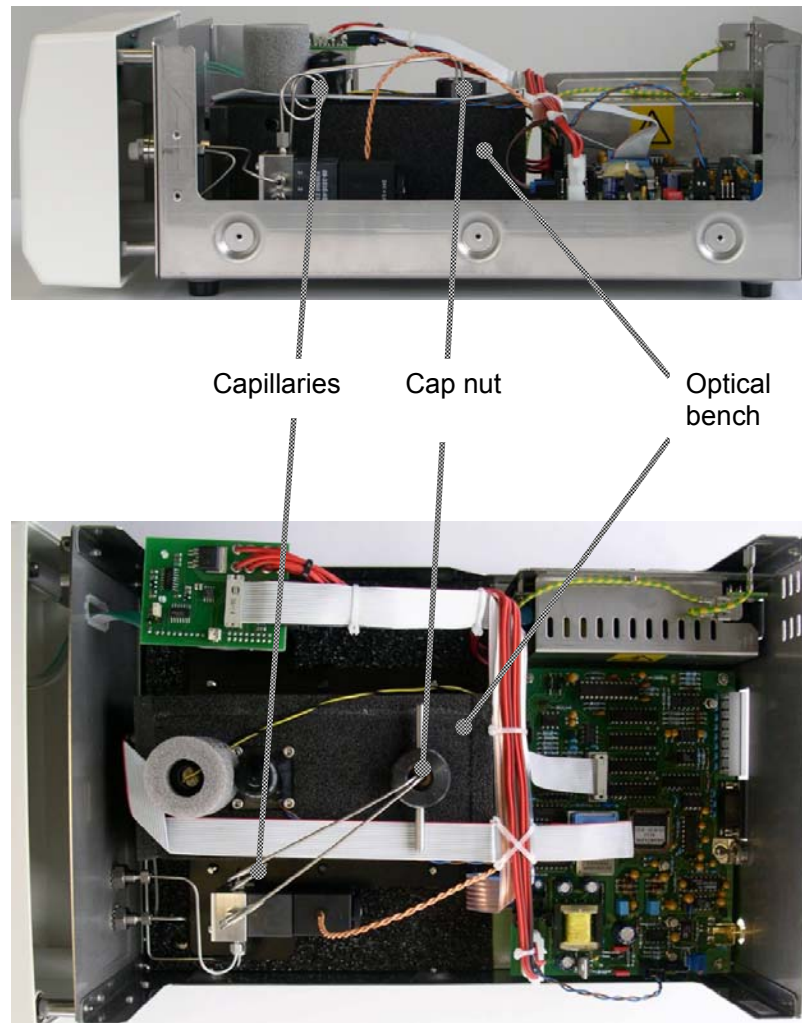
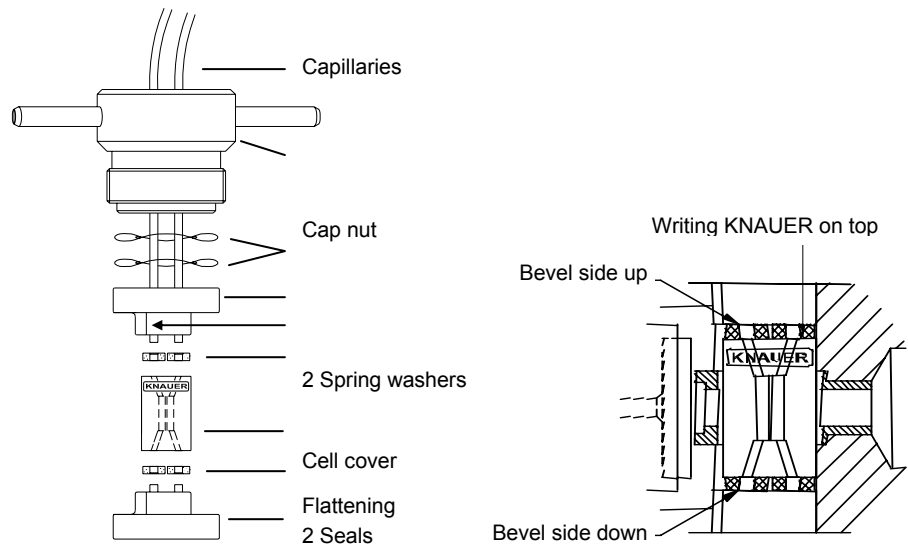

Fig. 18 Site of Measurement Cell in RI Detector 2300
Fig. 20 Layout of 45° Measurement cell (left) and Orientation on the Optical Bench (right) (RI Detector 2300)
5. Locate the measurement cell inside the housing. The measurement cell is installed on the optical bench from above and is fastened as shown in Fig. 18 and Fig. 20 by means of a cap.